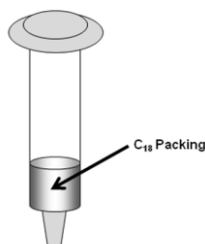

Figure 2: SPE Cartridge with C₁₈ packing
14. Clamp each SPE cartridge (Figure 2) in an upright position and arrange a waste beaker beneath each cartridge